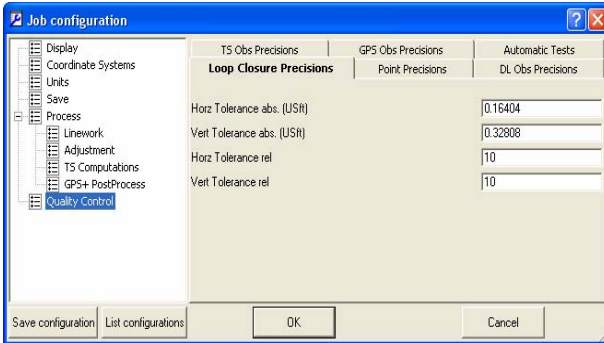

Figure 2-36. Job Configuration – Loop Closures Tab
- The *Loop Closure Precisions* tab sets the horizontal and vertical tolerances for loop closures (Figure 2-36).